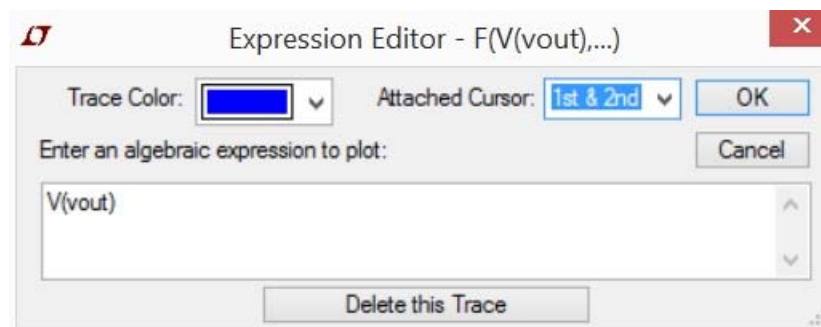

Figure 26. Add cursors
- E. Right click **V(vout)** label on the waveform window to add 1st and 2nd cursors as Figure 26.
- D. **Right click** the **V(vout)** label on the waveform window to add the cursors as Figure 26.